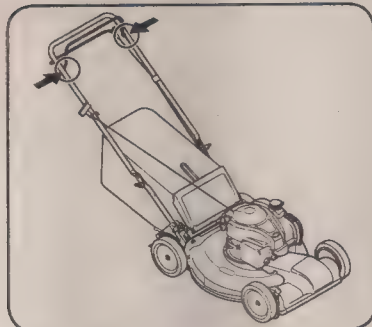

Figure 4-1
1. Lubricate pivot points on the blade and drive controls at least once a season with light oil. These controls must operate freely in both directions. See Figure 4-1.